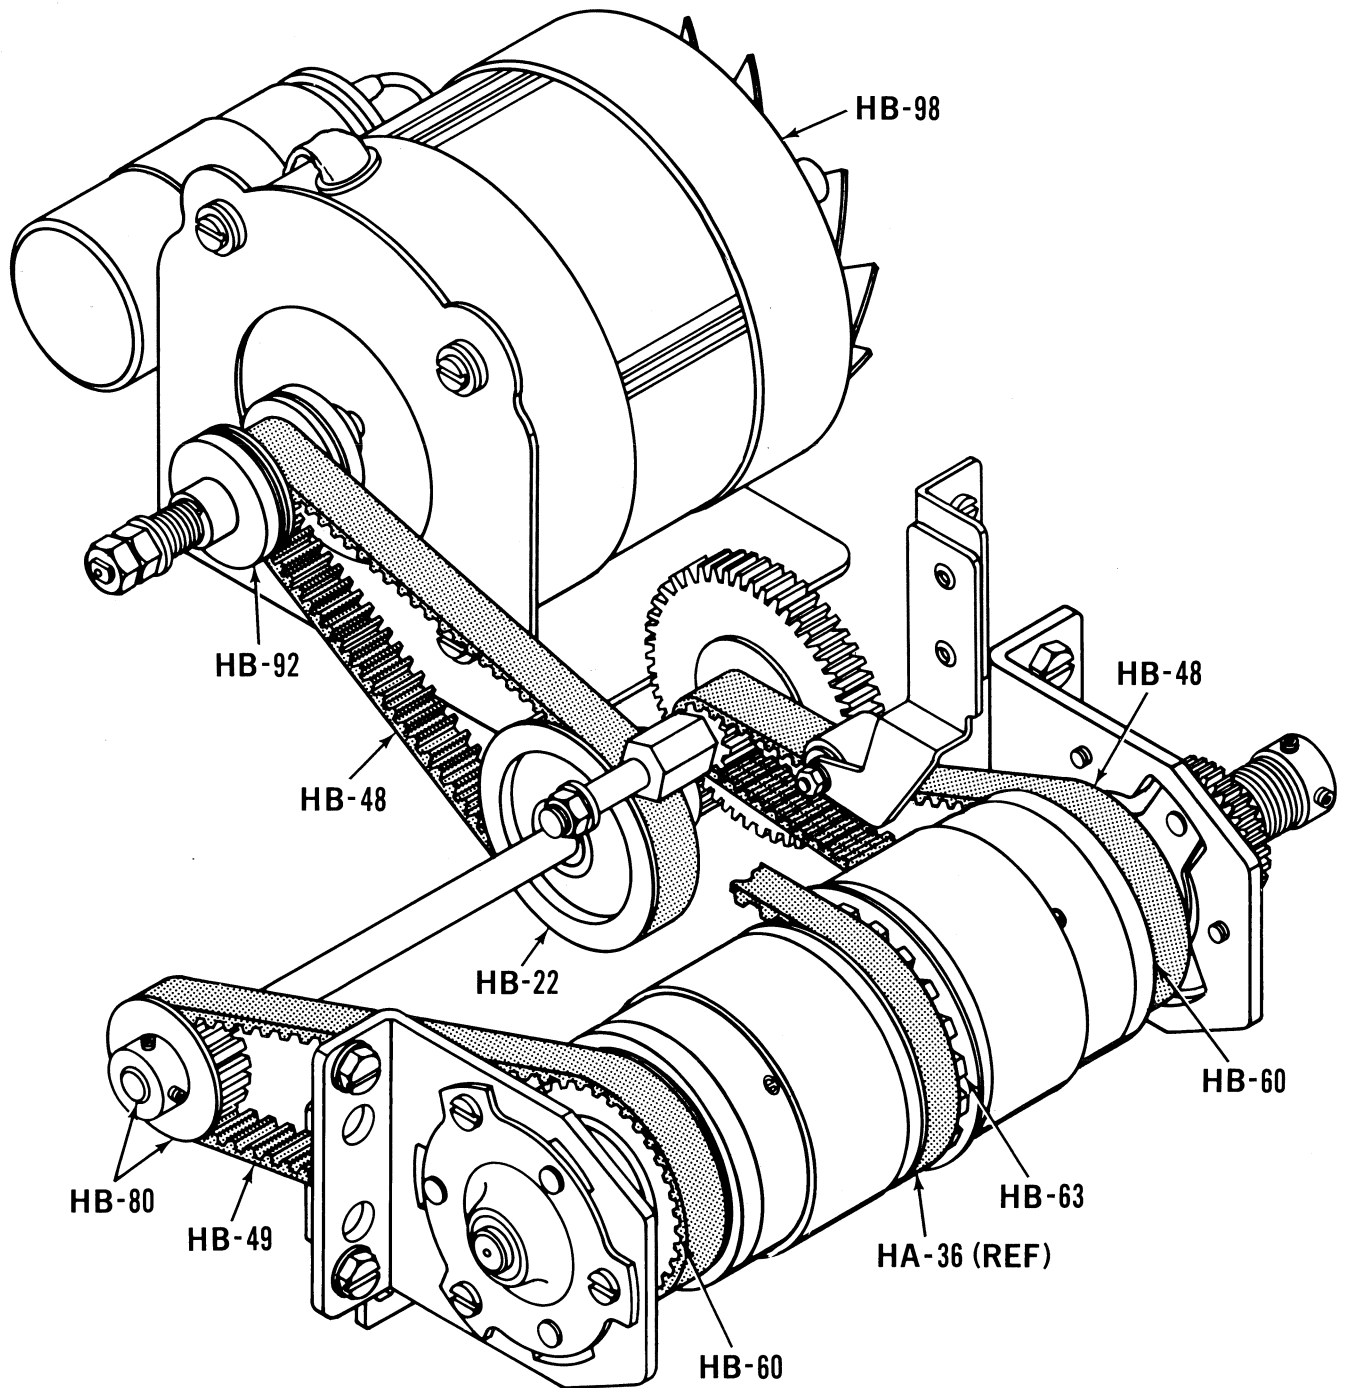

Figure 5-2. MAIN MOTOR DRIVE AND DRIVE BELT ARRANGEMENTS
C. Operating Conditions, Drive Mechanism (Figure 5-2)